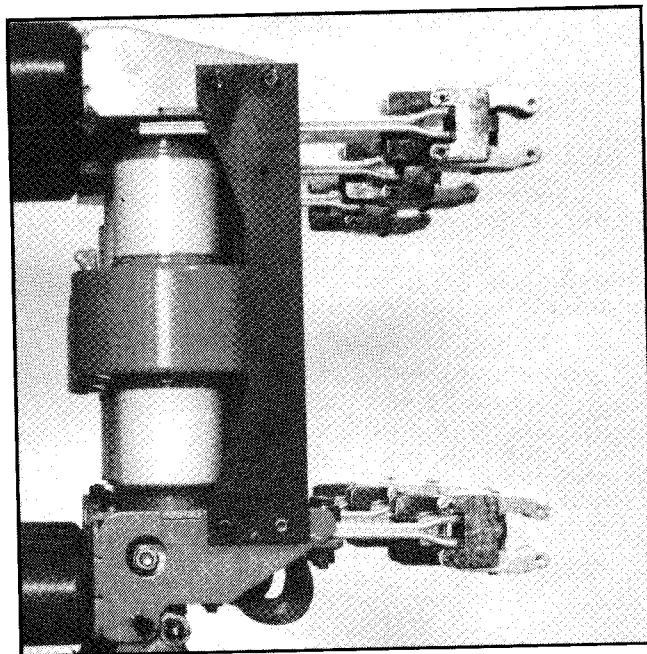
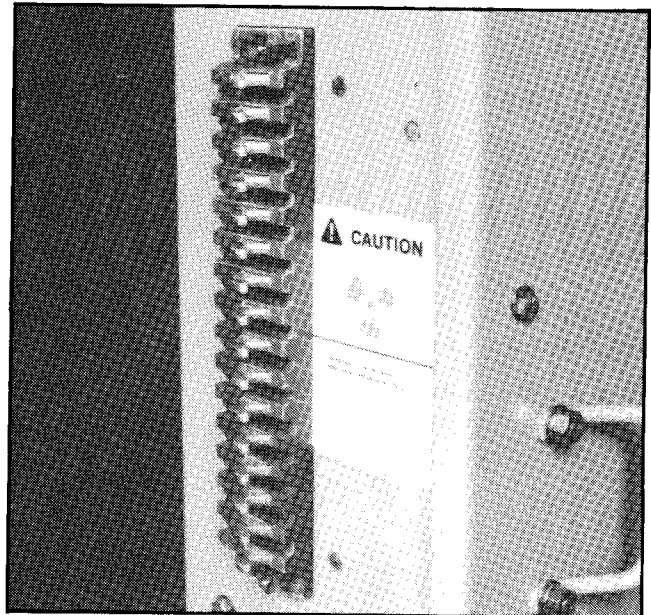

Figure 9. Primary Disconnect Studs and Contact Fingers.
Figure 24. Secondary Disconnects.
2. Check the upper and lower primary studs and contact fingers shown in **Figure 9**. Verify mechanical condition of finger springs and the disconnect studs.
3. Coat movable primary contact fingers, **Figure 9**, and the secondary disconnect contacts, **Figure 24**, with a light film of Siemens Contact Lubricant No. 15-171-370-002.
Signal and control power is delivered to the internal circuits of the breaker by an arrangement of movable contact fingers mounted on the left side of the circuit breaker. These fingers are shown in **Figure 24**.